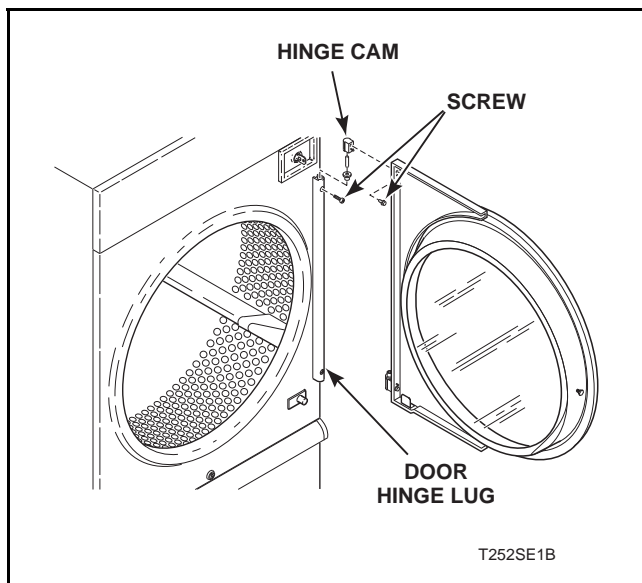

Figure 1
Refer to *Figure 1*.
Refer to *Figures 1* and *2*.
- c. Remove two screws at the loading door hinge. Refer to *Figure 1*.
- c. Remove two screws at the loading door hinge lug. Refer to *Figure 1*.
- a. Remove two screws from loading door hinge lug. Refer to *Figure 1*.
- Remove two screws from the loading door hinge lug. Refer to *Figure 1*.